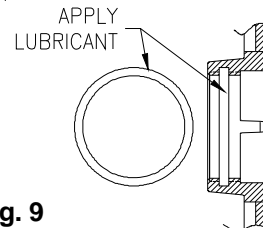

Fig. 9
- Using the o-ring seal and lubricant bag, ensure the o-ring and coupling are well lubricated. Insert the o-ring, ensuring it does not twist. See Fig. 9